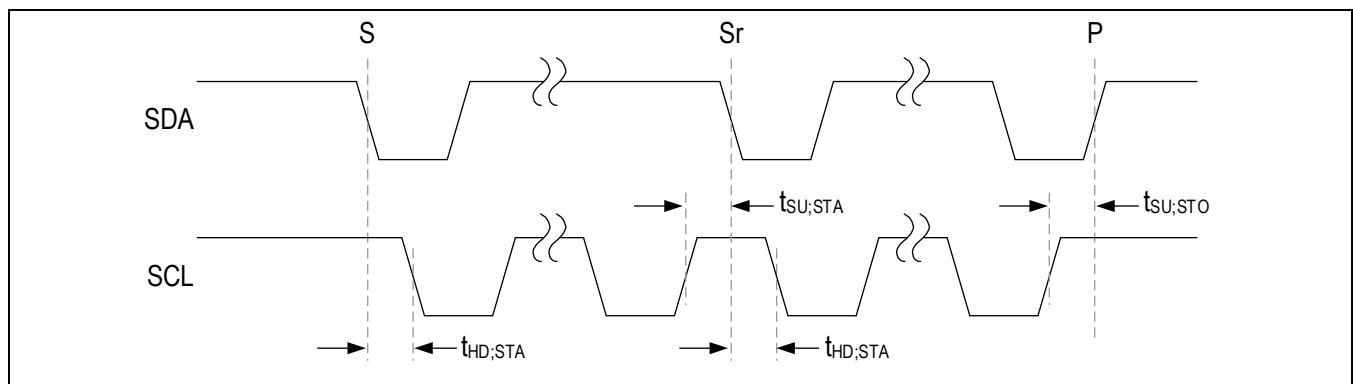

Figure 1. I²C Timing Diagram
The MAX20499C/MAX20499D features an I²C, 2-wire serial interface consisting of a serial-data line (SDA) and a serial clock line (SCL). SDA and SCL facilitate communication between the MAX20499C/MAX20499D and the controller at clock rates up to 1MHz. The controller, typically a microcontroller, generates SCL and initiates data transfer on the bus. Figure 1 shows the 2-wire interface timing diagram.
A controller device initiates communication by issuing a START condition. A START condition is a high-to-low transition on SDA with SCL high. A STOP condition is a low-to-high transition on SDA while SCL is high (Figure 1). A START (S) condition from the controller signals the beginning of a transmission to the MAX20499C/MAX20499D. The controller terminates transmission and frees the bus by issuing a STOP (P) condition. The bus remains active if a REPEATED START (Sr) condition is generated instead of a STOP condition.